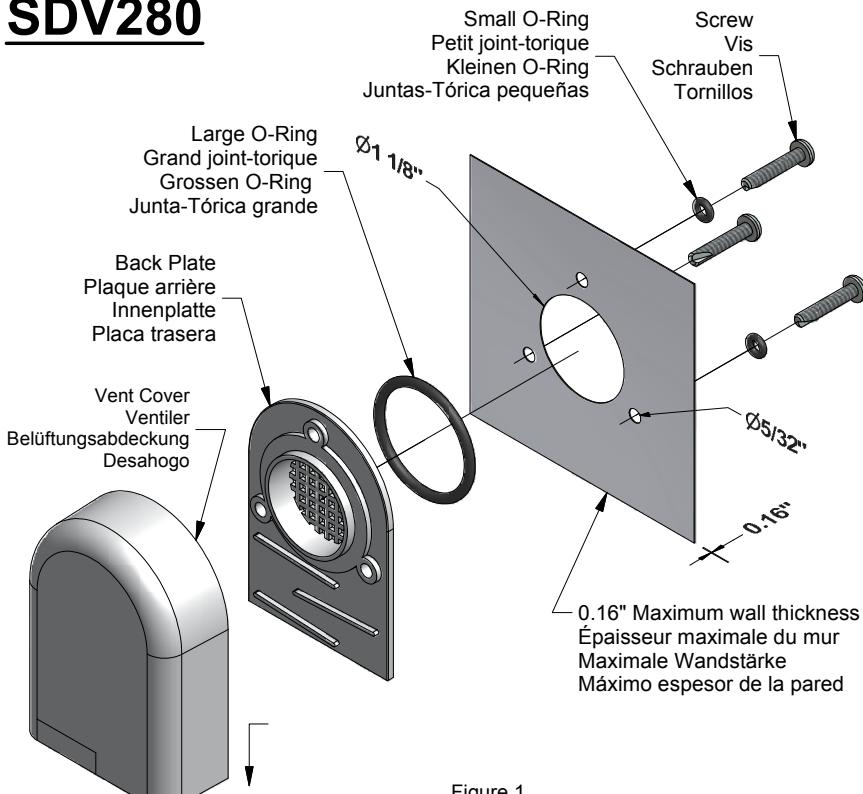

Figure 1
4. Assemble the vent cover, back plate and large o-ring in the hole pattern. Install the screws and small o-rings as shown in Figure 1. Do not over tighten!
4. Affixer le couvercle, la plaque de fond et le gros joint torique au trou $\varnothing 1-1/8"$. Installez les vis et petits joints toriques tel que figure 1. Ne pas serrer excessivement!